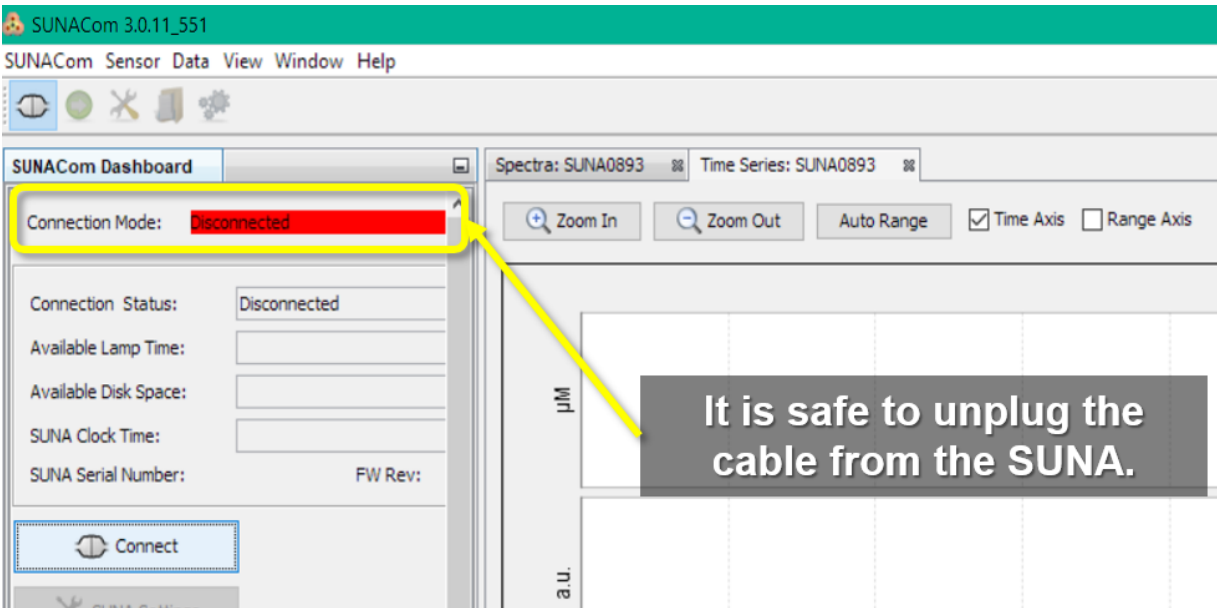

Figure 61. Safe to Unplug Cable from SUNA
- When the SUNAcom software displays the Connection Mode as red, you can safely unplug the cable from the SUNA instrument (see Figure 61).